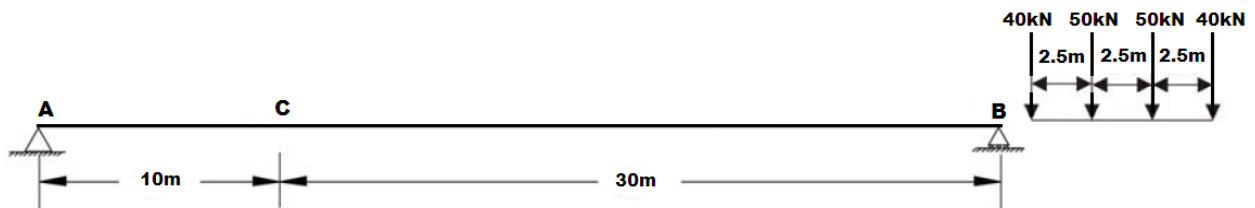

Figure Q1B
- (ii) The beam is loaded with concentrated loads which are moving from right to left as shown in Figure Q1B. Calculate the maximum moment at the section C. [12]